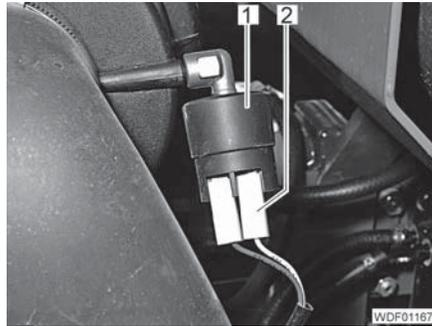

Fig. 443 Vacuum gauge
- Remove the 2 plugs (Fig. 443,2).
- Unscrew the vacuum gauge (Fig. 443,1).
- Connect the 2 connectors (Fig. 443,2) to the vacuum gauge.